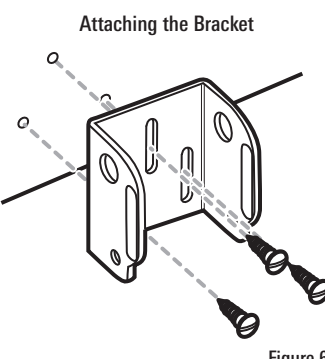

Figure 6
5. Align the metal mounting bracket with the mounting holes. The center slot should be above the two outer slots. (This bracket and all other hardware supplied is top quality stainless steel for maximum strength and corrosion protection.) Insert the three 1" (25 mm) flat head wood screws into the drilled holes, but do not completely tighten (Figure 6).